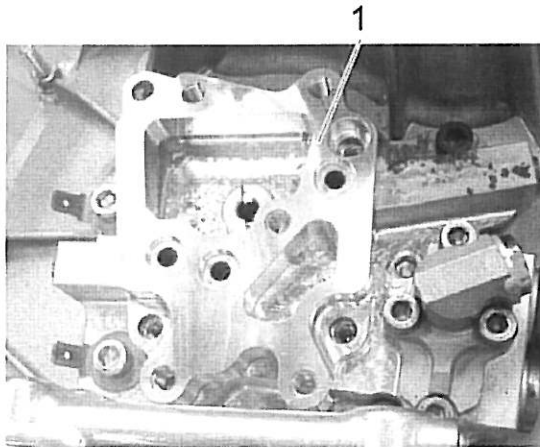

Figure 8
4. Place the adaptor plate (item 1) onto the ground plate with the side of the adaptor plate (item 1) facing down that was fitted with the O-ring (item 5) in working step No. 3. See Figure 8.